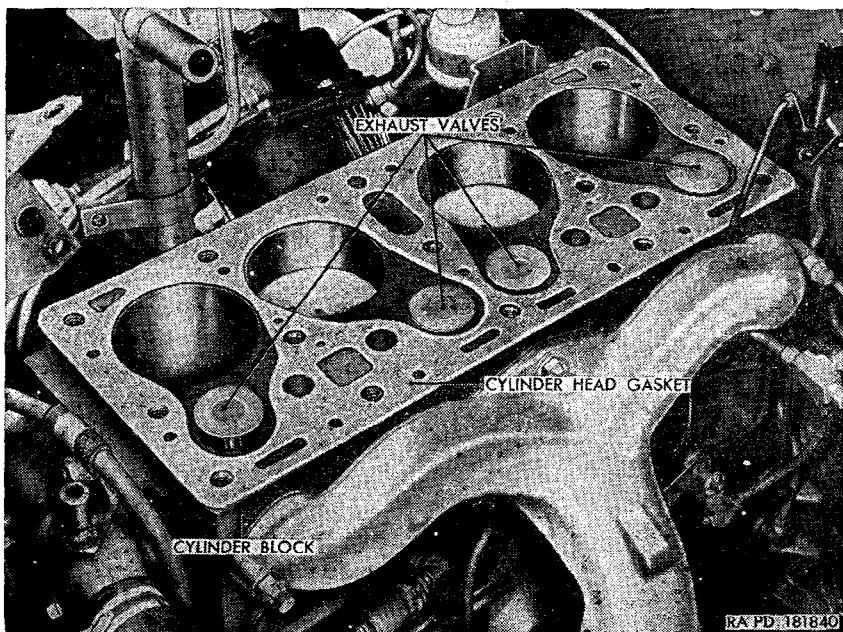

Figure 47. Cylinder head gasket positioned on cylinder block.
- (11) Remove the carburetor assembly (S) (par. 134b).
- (12) Unscrew the studs (C) from the tops of the two end rocker arm shaft brackets (E). Turn the studs over and screw the long ends of the studs into the brackets so that the rocker arm assembly components will stay together as a unit when removed from the cylinder head.
- (13) Remove the four lock nuts (D) securing the rocker arm shaft brackets (E) to the studs in the top of the cylinder head. Lift the rocker arm shaft brackets, rocker arms, rocker arm shaft, and springs as a unit from the top of the cylinder head.
- (14) Remove the four push rods (H) by lifting them out through the cylinder head holes.
- (15) Remove the two screws securing the lifting hook (Q) to the cylinder head and the cylinder head to the cylinder block. Remove the lifting hook. Remove the flat washer beneath the lifting hook and the top of the cylinder head at the rear hole of the hook.
- (16) Remove the screw securing the oil filter bracket (L) to the cylinder head and the right front of the cylinder head to the cylinder block. Push the bracket and oil filter assembly (M) away from cylinder head to prevent interference with the head when removing it.
- (17) Remove the screw securing the accelerator upper bellcrank (G) to the cylinder head and the left side of the cylinder head to the cylinder block.
- (18) Working through the hole over which the carburetor is mounted, when installed, remove the screw securing the cylinder head to the cylinder block.
- (19) Remove the remaining 10 screws (B) and flat washers securing the cylinder head to the cylinder block.
- (20) Lift the cylinder head (T) from the top of the cylinder block.
- (21) Remove and discard the cylinder head gasket (fig. 47) from either the bottom of the cylinder head or the top of the cylinder block.
- (1) Clean gasket and carbon deposits from both the cylinder head and the cylinder block.
- (2) Carefully position a new cylinder head gasket on the cylinder block (fig. 47).
- (3) Carefully lower the cylinder head onto the cylinder head gasket and cylinder block. Insert a $\frac{7}{16}$ -inch flat washer and $\frac{7}{16} \times 4\frac{1}{4}$ screw at each end of the cylinder head to properly align cylinder head with cylinder head gasket and cylinder block.
- (4) Position the oil filter bracket (L) on the cylinder head in alignment with the first two holes on the right side, and install the $\frac{7}{16} \times 4\frac{1}{4}$ screw in the front hole.
- (5) Position the lifting hook (Q) over the rear hole in the oil filter bracket and start a $\frac{7}{16} \times 4\frac{5}{8}$ screw into the thread.